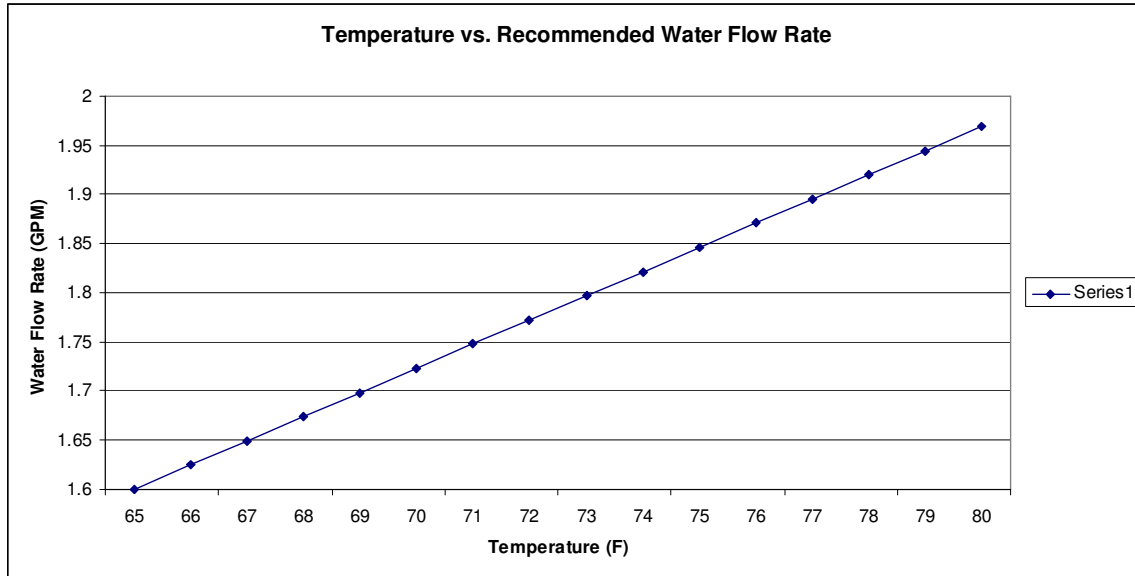

Figure 1 - Temperature vs. Recommended Water Flow Rate.
- b. Minimum water flow rate of 1.6 GPM (6 LPM) is required to achieve a maximum discharge temperature of 100°F (38°C). Ideal discharge temperature is 90°F (32°C). A flow rate of 1.8~2.0 GPM (6.8~7.6 LPM) is recommended. The inlet water temperature should not exceed 80°F (27°C). See Figure 1 for water flow rate curve.